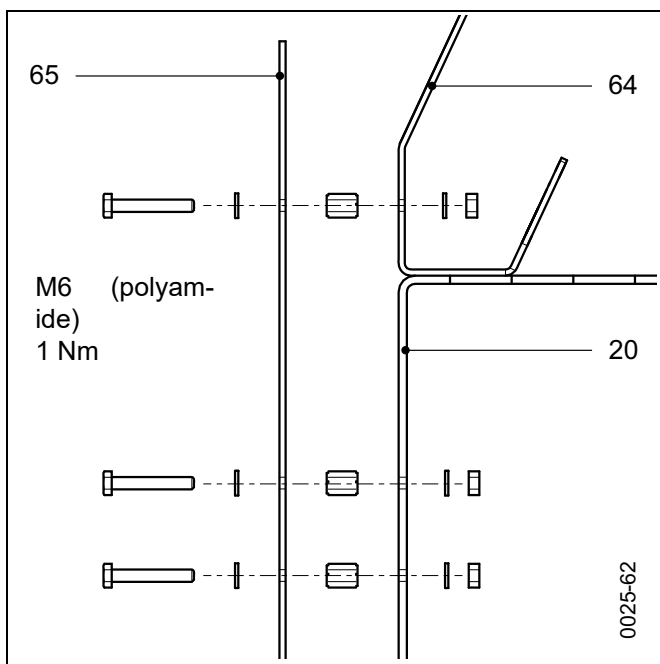

Fig. 66 Mounting the transparent insulating plate (optional)
- If necessary, attach the transparent insulating plate (65) to the angled protective plate (64). See Fig. 66. Fasten M12 hexagon socket screws with a tightening torque of 84 ±6 Nm.